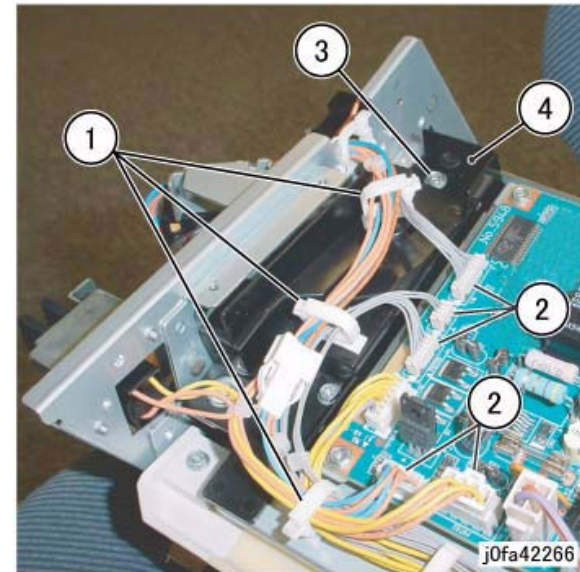

Figure 1 Removing the Connector Bracket (j0fa42266)
4. Remove the Connector Bracket. (Figure 1)